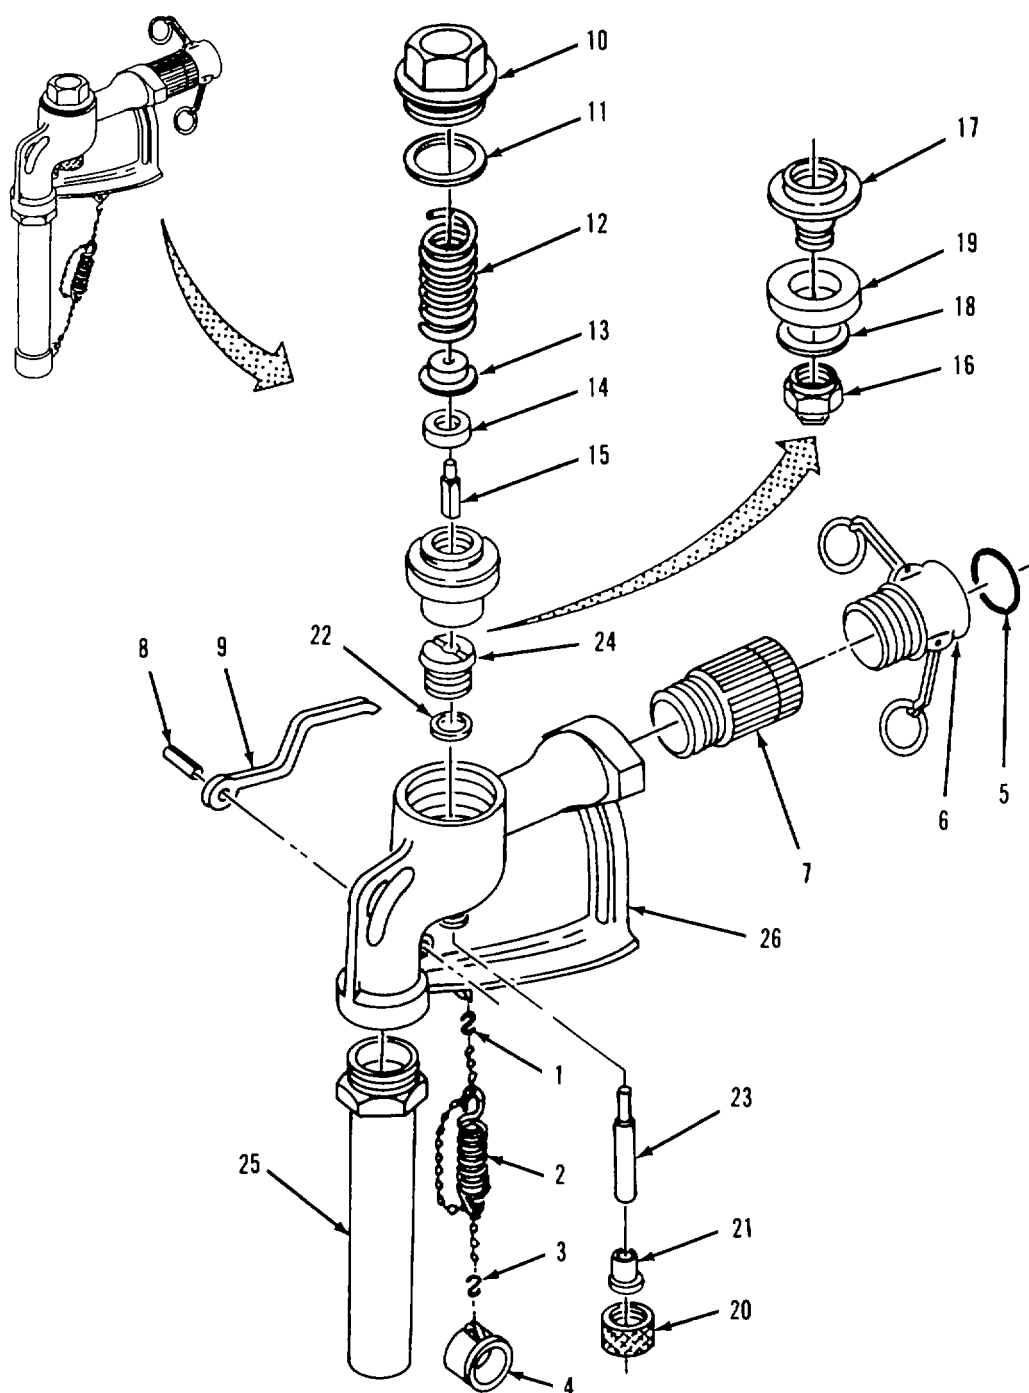

Figure 4-14. Distribution Nozzle (1 ½-inch) Disassembly.
- a. Disassembly. Refer to figure 4-14.
- (1) Disconnect S-hook (1) from body (26).
- (2) Remove S-hook (1) from chain and spring (2).
- (3) Remove tube cap (4) and S-hook (3) from chain and spring (2) Disconnect S-hook from tube cap.
- (4) Remove gasket (5) from female coupling (6).
- (5) Remove swivel (7) and female coupling (6) from body (26).
- (6) Unscrew female coupling (6) from swivel (7).
- (7) Drive out groove pin (8) and remove handle (9) from body (26).